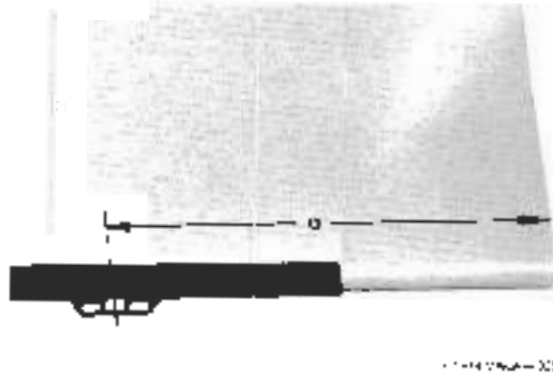

Fig. 5-23. Glass lifting dimension. Dimension *a*, measured from the center of the lifter channel, must be the same to both edges of the glass.
11. When installing new glass in the lifter channel, the dimension indicated in Fig. 5-23 must be the same on both sides of the glass.